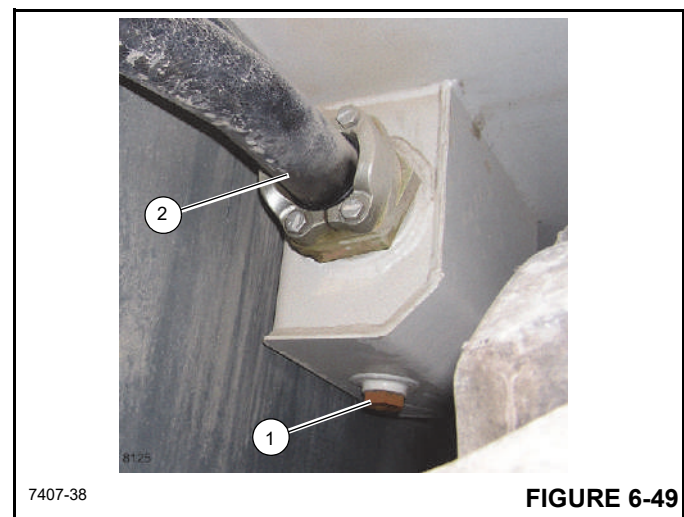

FIGURE 6-49
5. Place a suitable container under the hydraulic tank drain port (Figure 6-49).
6. Remove the drain plug (1, Figure 6-49) and drain the oil into the container.
7. Disconnect the suction hose (2, Figure 6-49) from the hydraulic tank. Drain the hydraulic oil into the container. Remove the suction strainer from the hydraulic tank and clean it in a suitable solvent.